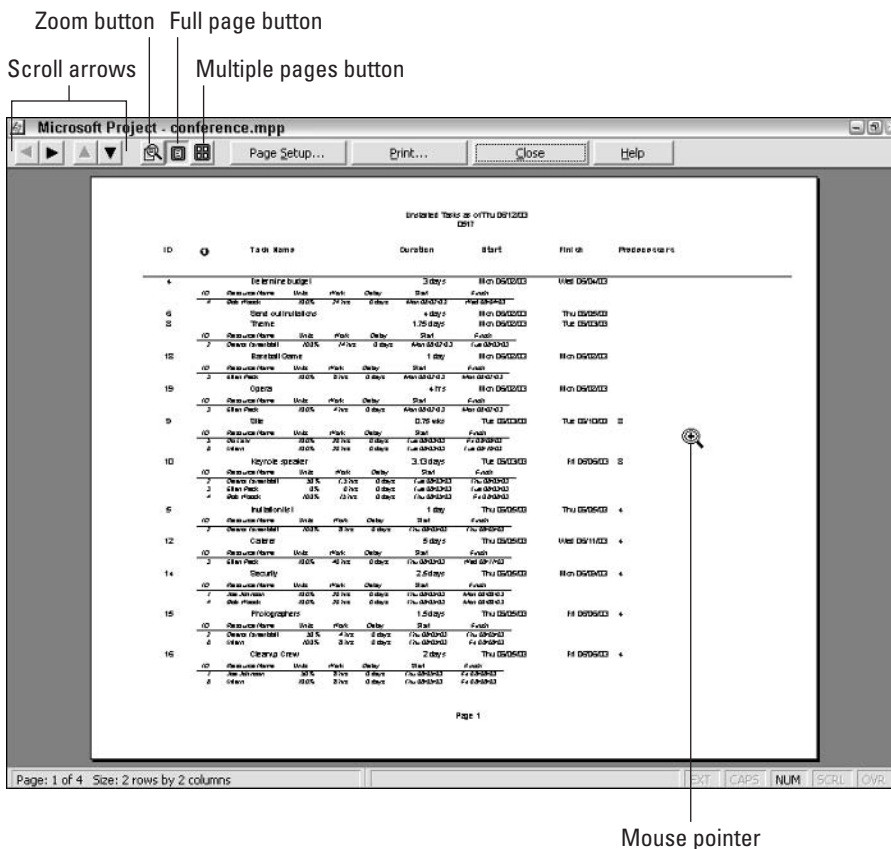

Figure 13-2: A report in Print Preview mode.
5. Click Select. Project displays the report on-screen in Print Preview mode, as shown in Figure 13-2.